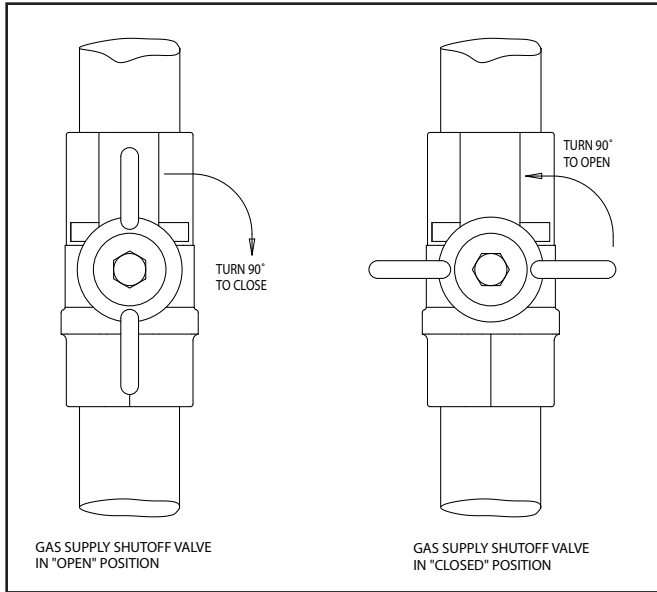

Figure 24. Gas supply shutoff valve operation.
5. Open the gas supply shut-off valve, by turning the handle to be parallel to the gas piping (See Figure 24).
6. Wait five (5) minutes (longer for propane) to clear out any gas, then smell for gas, including near the floor. If you then smell gas, **STOP!** Follow "B" in the safety information above on this page. If you don't smell gas, go to next step.
3. Close the gas supply shut off valve, by turning the handle to be perpendicular to the gas piping. (See Figure 24).